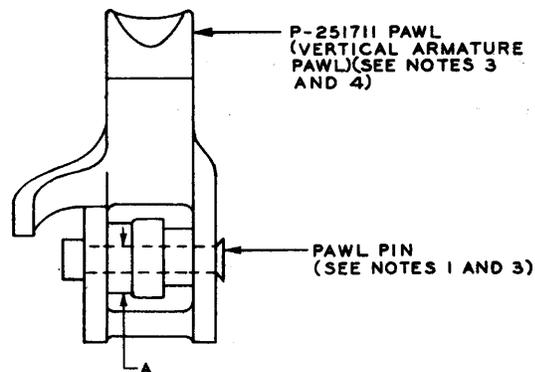
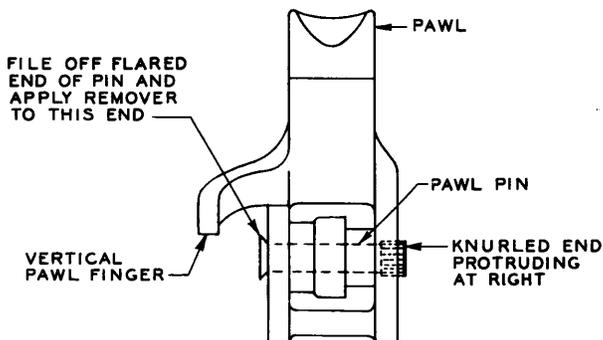

Fig. 1 - Vertical Pawl and Pawl Pin
Fig. 9 - Vertical Pawl with Headless-Type Pawl Pin Having Knurl Protruding at Right of Pawl
Notes for Fig. 1 and 2
3.09 Removing Vertical Pawl Pin per Fig. 9 and 10: Remove both loose and tight pawl pins as covered in 3.07(2).
(1) If a headless-type vertical pawl pin with a protruding knurl (Fig. 9) is being replaced, make sure that the P-252536 pawl pin (Note 1 for Fig. 1 and 2) is used as the replacement.
(2) If other than the headless-type pawl pin covered in (1) is being replaced, determine the proper replacement pin as follows. Attempt to insert the 0.093-inch end of the 130A gauge into the mounting holes of the pawl and the bearing of the armature. If the gauge does not enter the armature and pawl, use the P-252534 (0.090-inch diameter) pawl pin. (See note 1 for Fig. 1 and 2.) If the gauge enters but is snug, use the P-252535 (0.094-inch diameter) pawl pin, and if the gauge is loose, use the P-252536 (0.105-inch diameter) pawl pin.
3.11 Mounting Vertical Pawl Pin: To mount the vertical pawl pin proceed as covered in (1) if the vertical armature assembly was removed from the switch or as covered in (2) if the armature assembly was not removed.